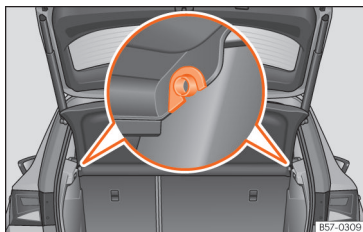

Fig. 127 In the luggage compartment: removing and fitting the shelf.
- Remove the rear shelf from the side supports »» Fig. 127 by pulling it upwards and then take it out.
- Insert the cover horizontally so that the “recess” fits onto the axis of the supports »» Fig. 127 and press down until it engages.